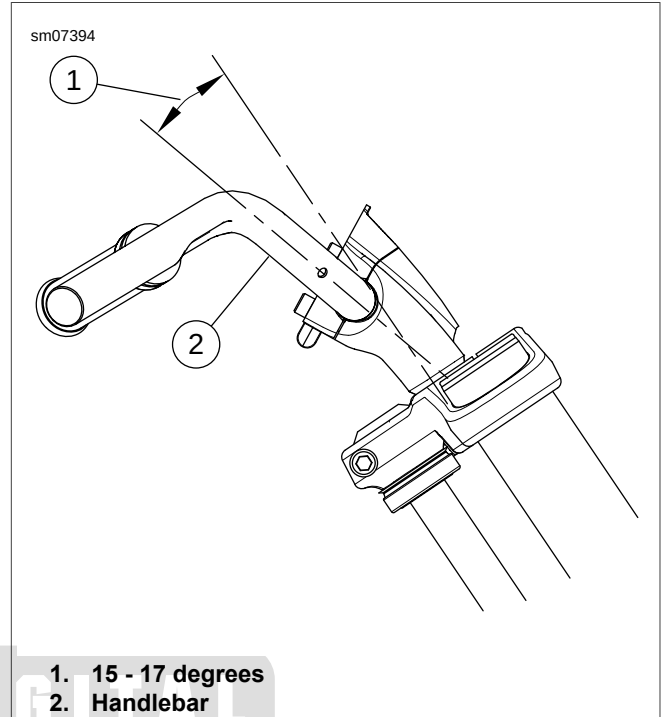

Figure 2-47. Handlebar Position
4. See Figure 2-47. Position handlebars so they are 15 - 17 degrees from fork angle (towards rider).